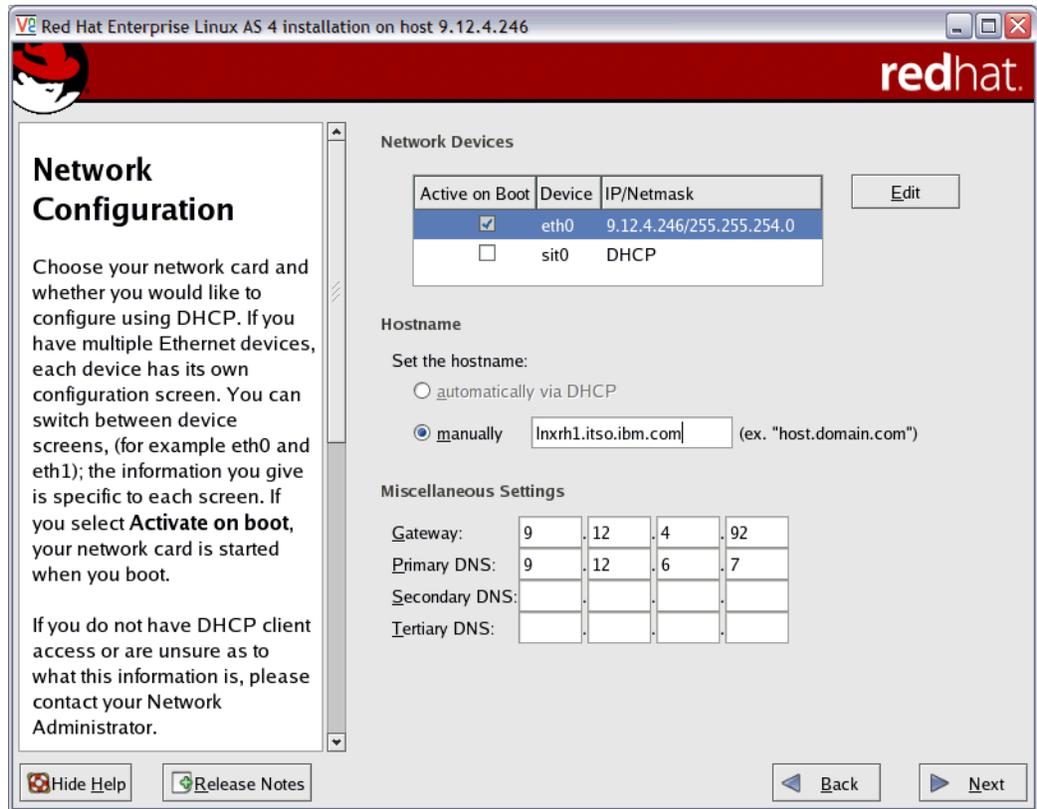

Figure E-8 Network configuration options
- ▶ Next, we updated the network configuration options as shown in Figure E-8 on page 301. Note that all the parameters we previously entered were kept except the hostname, which we had to update again manually.